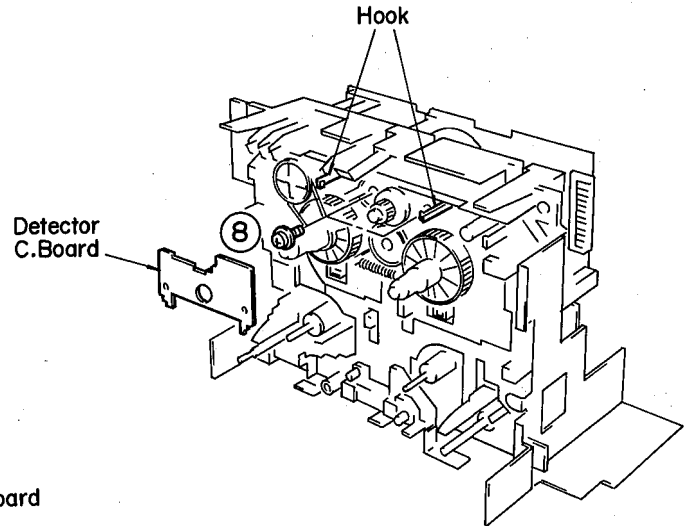

Fig. 6
- b. Remove the detector board by removing the hooks in fig. 6.
- c. Remove the 2 hooks (⑧) which mount the reel motor in fig. 6.